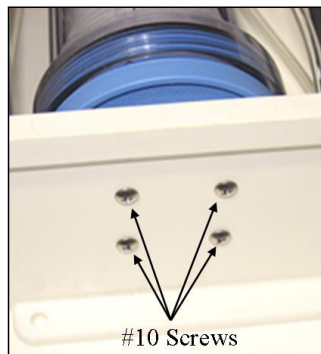

FIGURE H-1. Four screws holding filter assembly inside CPEC300 pump module enclosure
2. Remove the four, #10 self-sealing screws that hold the filter assembly within the CPEC300 pump module or system enclosure (see FIGURE H-1). If these screws become lost or damaged, replace them with pn 26412.